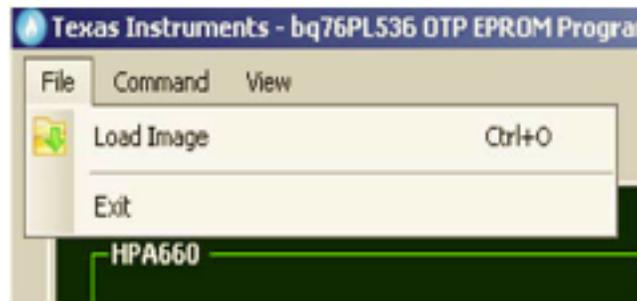

Figure 7. Loading Image to bq76PL536 OTP EPROM Programmer
5. Load the image created with bq76PL536EVM (Figure 7 and Figure 8).